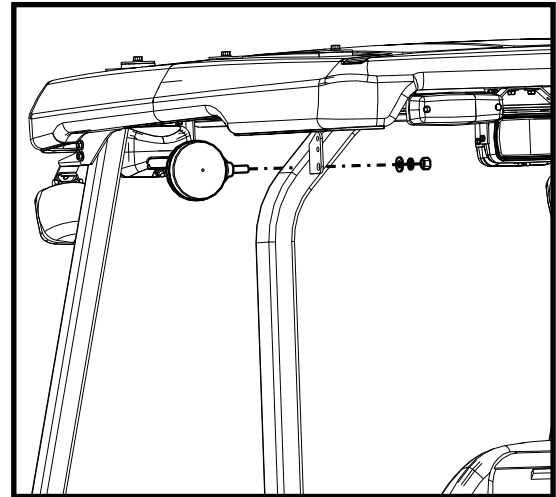

Figure 1.2: Remove Round Directionals
- 1.2 Unplug and remove the round directionals from the rear of the vehicle (see Figure 1.2).